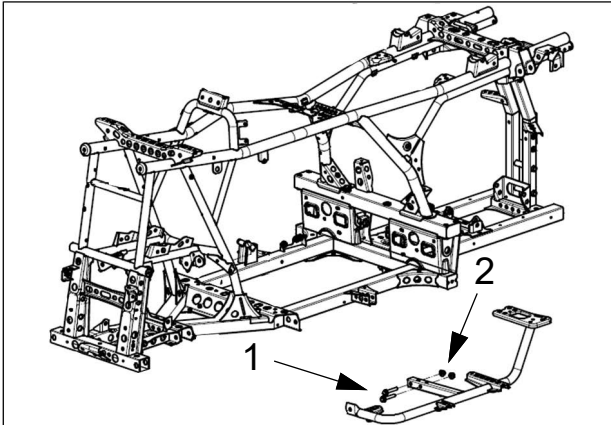
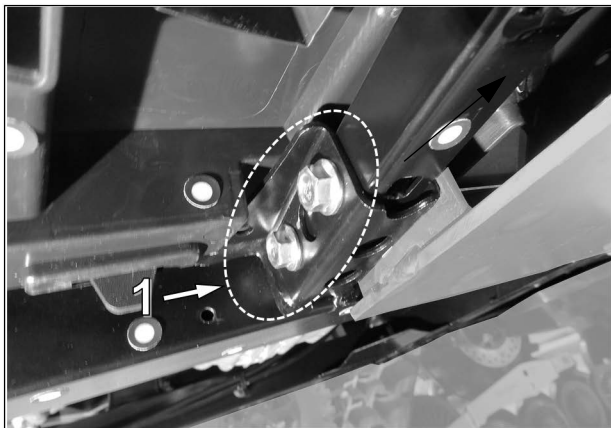

Fig. 4
Fig. 5
4. Remove footrest sub-frame assembly M8 bolts (1) & nuts (2) located in the middle position. Fig. 4 & Fig. 5